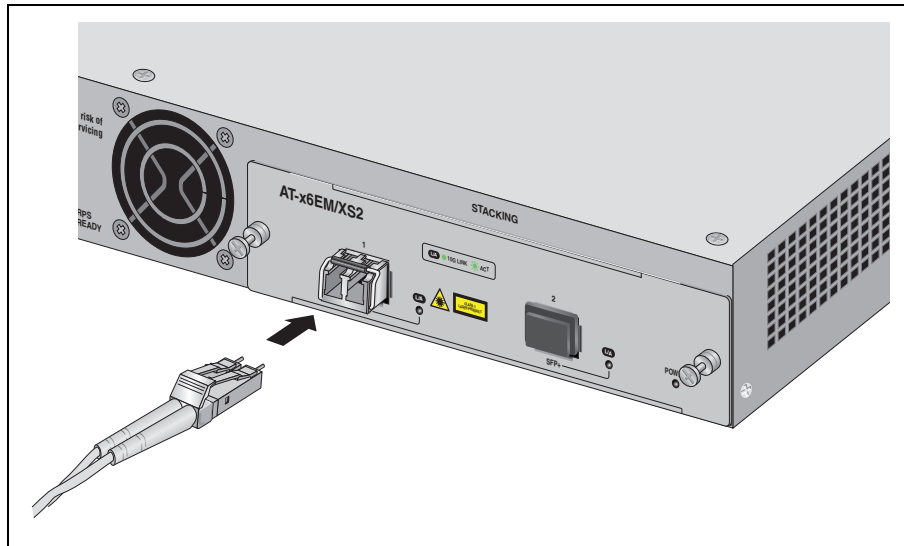

Figure 68. Connecting a Fiber Optic Cable to the SFP+ Transceiver
7. Connect a cable to the SFP+ transceiver, as shown in Figure 68. For SFP+ optical and cabling specifications, consult the documentation shipped with the module.